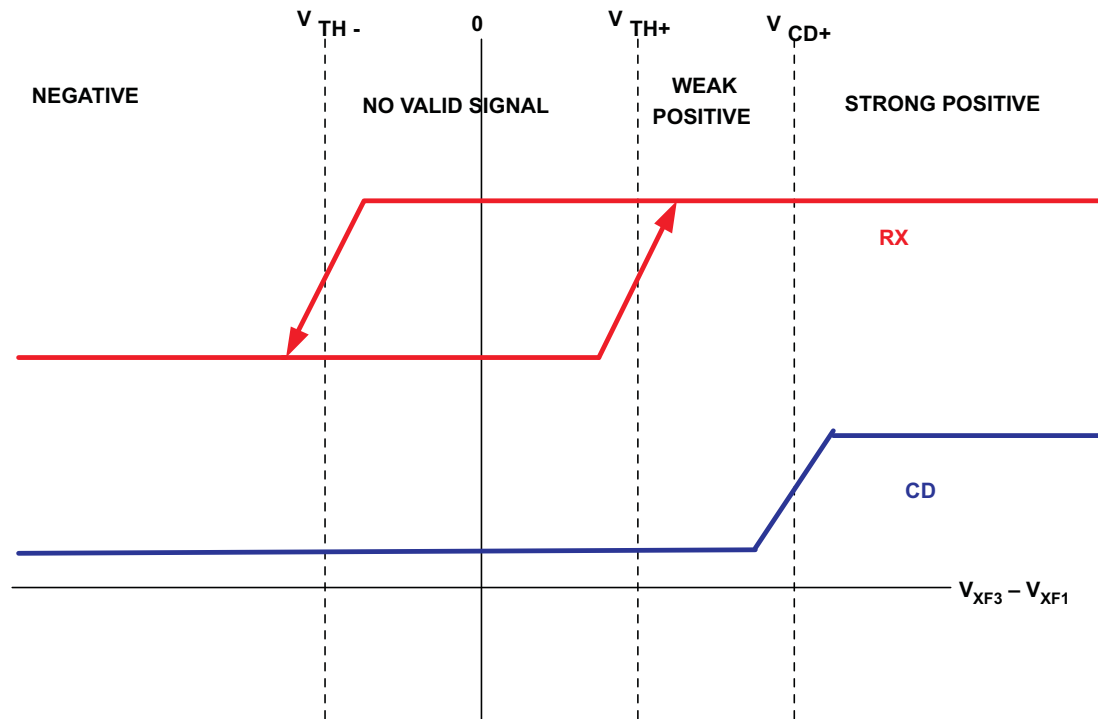

Figure 14. RX and CD Functions
The function of the primary receiver (RX) and the carrier detect (CD) depends on the signals XF1 and XF3. The purpose of RX is to indicate the status of the two ControlNet bus lines, based on the signals XF1 and XF3. If the voltage at XF3 is greater than the voltage at XF1, then the bus state is positive, and RX should output a HIGH voltage. This corresponds to a Phy_1 symbol. If the voltage at XF3 is less than the voltage at XF1, then the bus state is negative, and RX should output a LOW voltage. This corresponds to a Phy_0 symbol. See Figure 14. Note that the allowable variation in V_{TH-} , V_{TH+} , and V_{CD} is specified in the ELECTRICAL CHARACTERISTICS table.